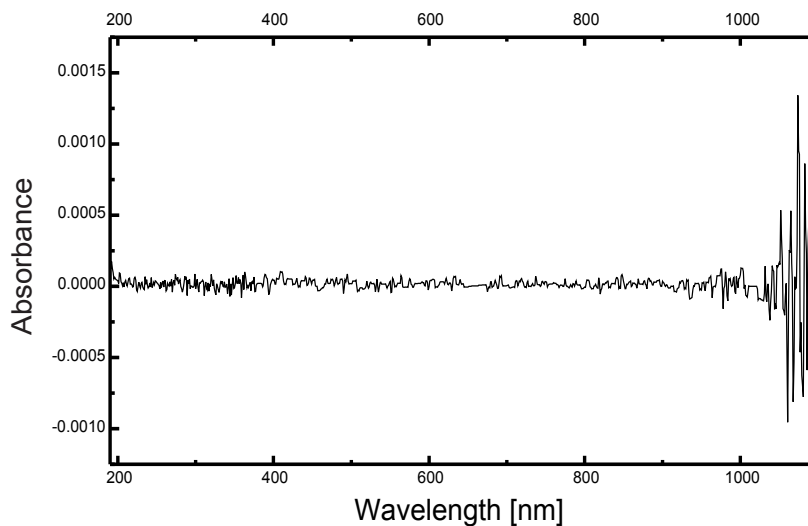
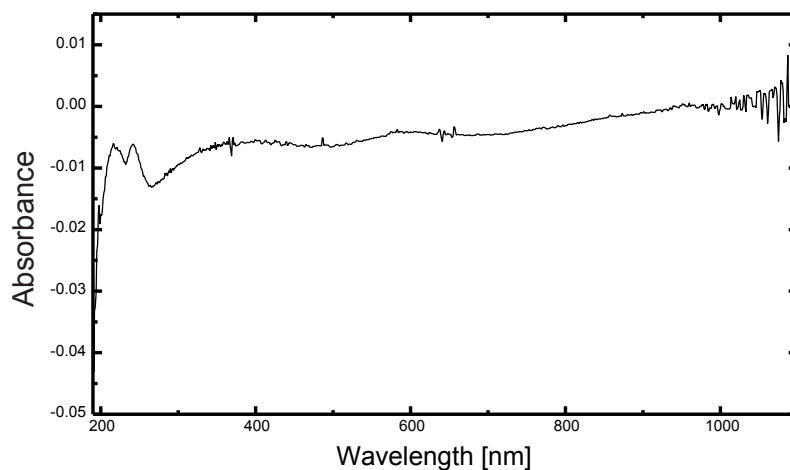

Figure 10 Example of a blank on water showing a good baseline
Figure 11 Example of a blank on water with bubbles causing a poor baseline
- ✓ Blank measurement shows a flat baseline (Figure 10 and Figure 11 show a good and a poor baseline)
If your blank or spectra show artifacts similar to the one in Figure 11, see “Solvents” on page 39 to optimize the measurement procedure.